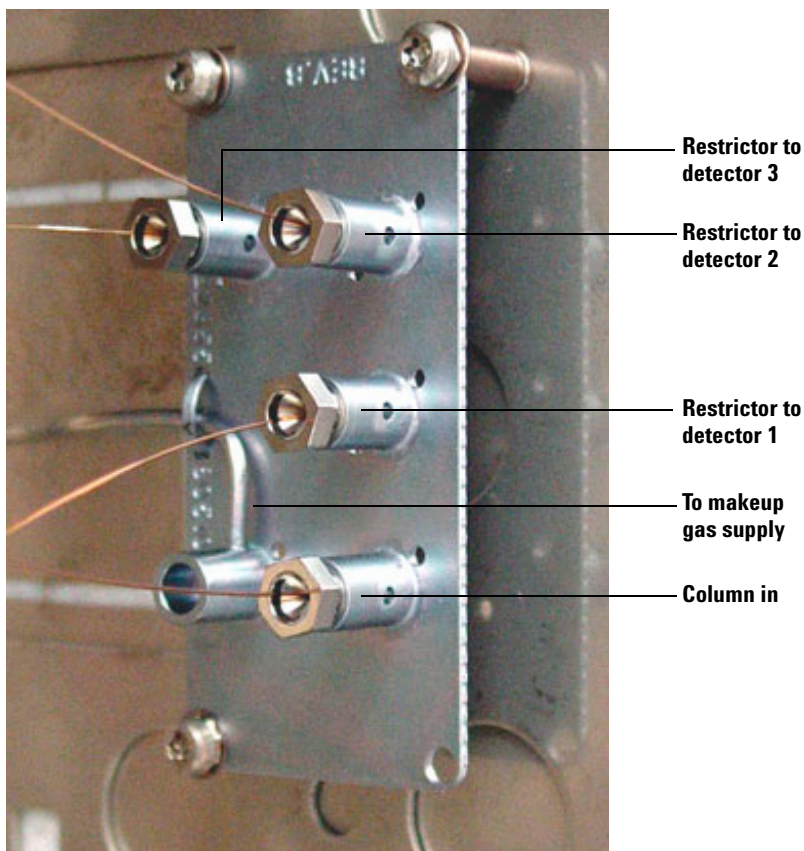

Figure 15 Detector and column connections
- 2 Connect the restrictors to the connectors on the splitter (Figure 15). Finger-tighten until just snug, then tighten with a wrench an additional 15°. Install the back restrictor first.